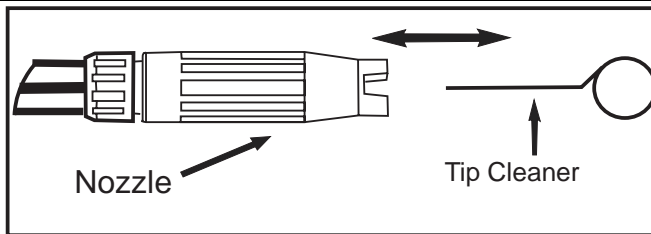

Figure 5- Insert tip cleaner in nozzle hole and move back and forth until debris is dislodged
- Using included tip cleaner, or an unfolded paper clip, insert wire into the nozzle hole and move back and forth until debris is dislodged (see Figure 5.)